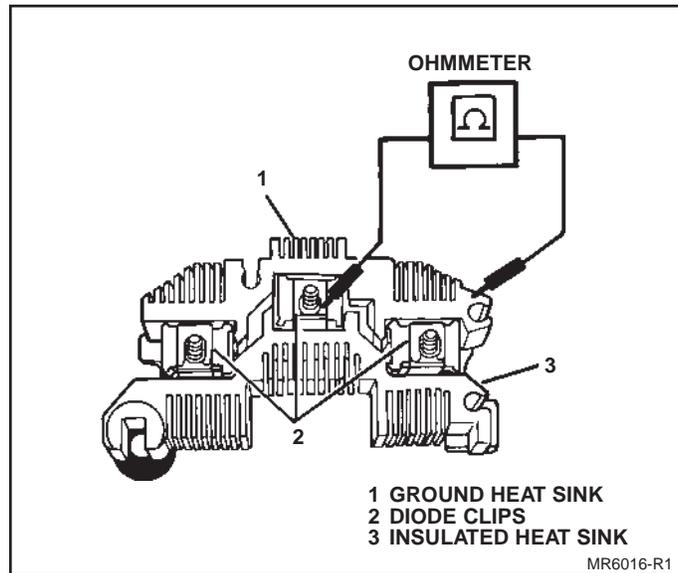

Figure 17. Electrical Check of Rectifier Bridge
10. Use ohmmeter to check rectifier bridge (Fig. 17). Bridge may be checked in place in the SRE frame. Check 6 diodes as follows: